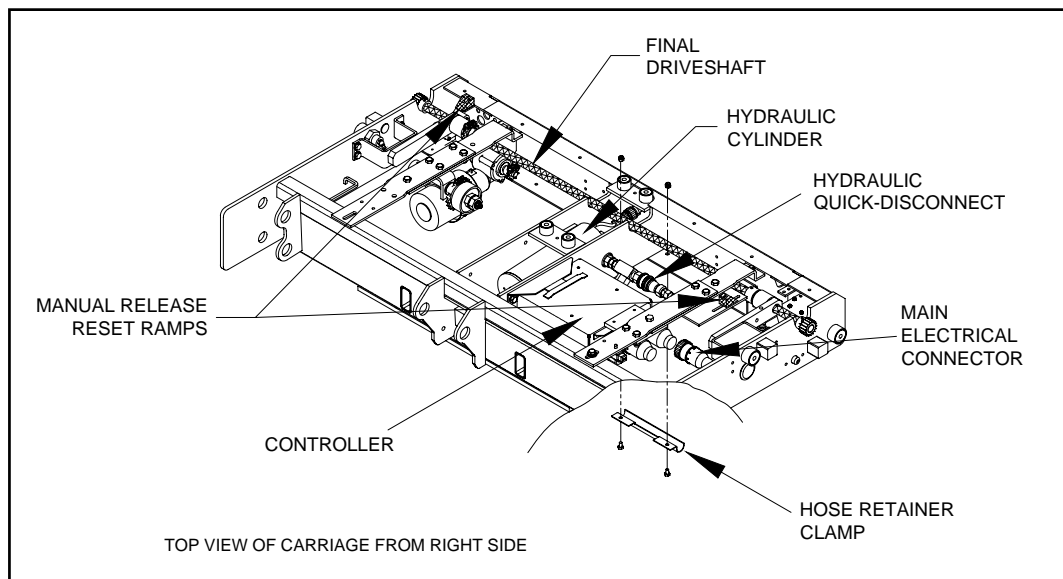

FIGURE 4-16: CARRIAGE COMPONENTS
- f. Refer to **Figure 4-16**. Verify that platform release shafts are in the engaged position (rotated in the direction opposite to what is indicated on adjacent decal). Deflect final driveshaft downward to disengage its pinion gears from gear rack. Use nylon tie-wraps, or similar, to hold driveshaft disengaged.
- 1) Refer to **Figure 4-16**. Slide rubber coupler onto gearbox input shaft.